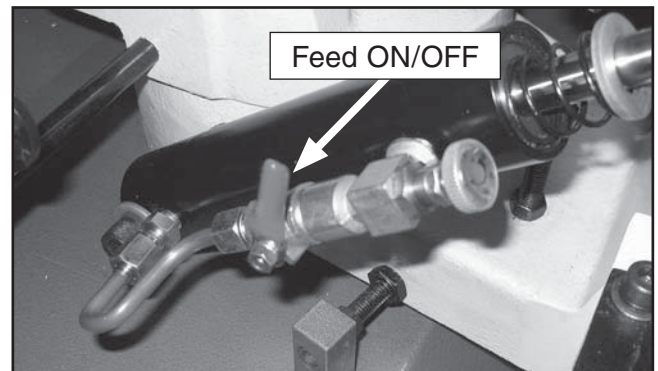

Figure 15. Feed ON/OFF Valve.
1. Raise the bow and lock it in place by closing the feed ON/OFF valve (**Figure 15**).